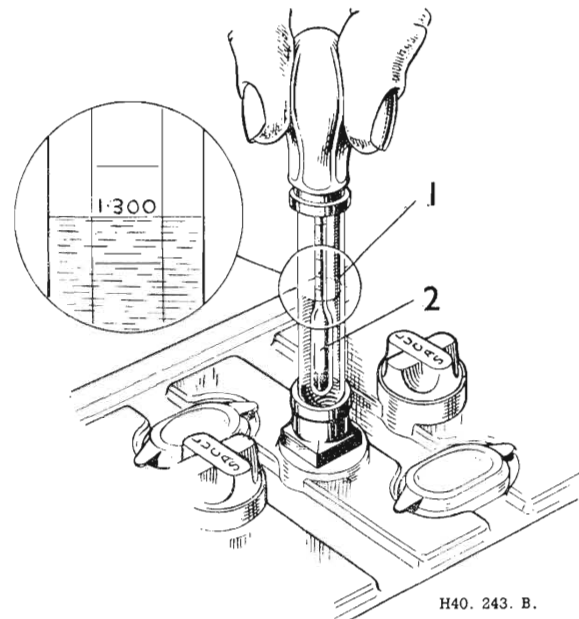

Fig. M.1. Using a hydrometer to test the specific gravity of the battery acid.
- (2) Remove the vent plugs and check they are not perished or cracked, otherwise leakage of electrolyte will occur. Clean out the vent holes if necessary with a piece of wire.
- (3) The electrolyte levels should be maintained just above the tops of the separators by adding distilled water. Never add acid.
- (4) Check the terminal posts. If they are corroded remove the cables and clean with diluted ammonia. Smear the posts with petroleum jelly before remaking the connections and ensure that the cable terminal clamp screws are secure.
- (5) Test the condition of the battery cells by using a hydrometer (see Fig. M.1.).
- (1) Place the battery on a lead-covered bench or on a wooden bench treated with anti-sulphuric paint.
- (2) Check the electrolyte levels.
- (3) Inspect the container for cracks which may be indicated by external corrosion or extreme variation in the electrolyte levels. A cracked container must be renewed.
- (4) Test the condition of the battery cells by using a hydrometer (see Fig. M.1).